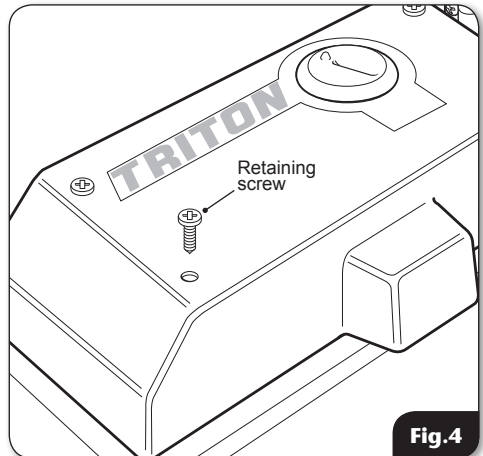

Fig.4
- Remove the four retaining screws holding the PCB cover (**fig.4**). Lift the cover together with the variable speed control from the pump body.